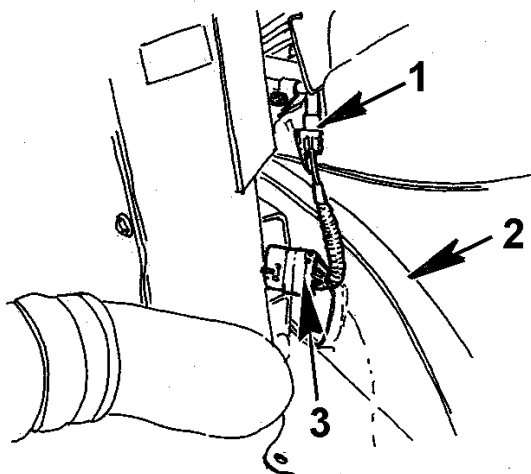
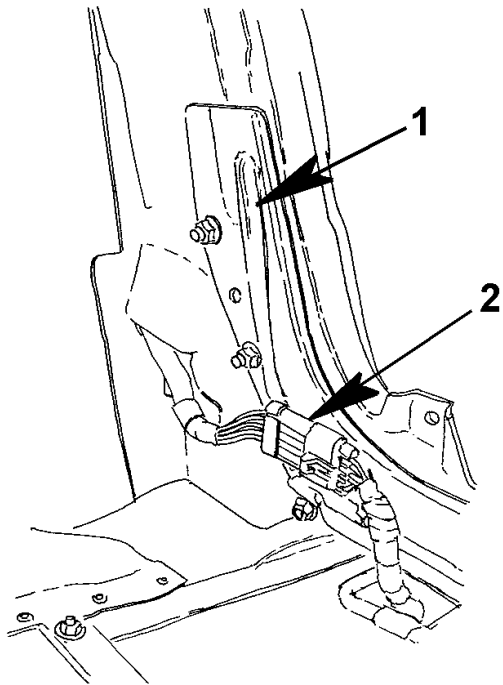

Figure 13 Harness Connections (Passenger Side Shown)
Figure 14 Harness Connection (Driver Side Shown)
3. Beginning on the passenger side of the hood assembly, locate and disconnect the chassis harness from the hood harness (Figure 13, Item 3). Follow the same procedure on the drivers side (Figure 14, Item 2). The harness stays with the hood.